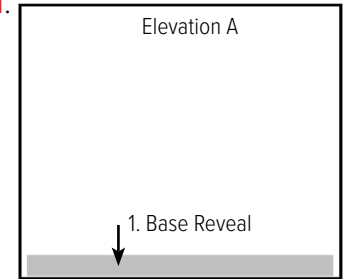

Figure 2.1.2
2.1.2 Center the reveal against the wall along the floor and apply light pressure to distribute the caulking evenly as shown in Figure 2.1.2.